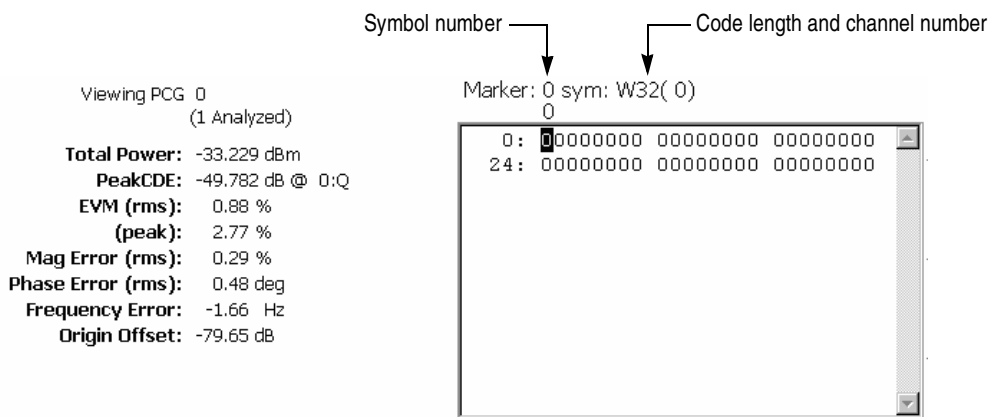

**Figure 2-24: PhaseErr display-reverse link**
**PhaseErr Display.** When you select Mainview Content from the VIEW DEFINE menu and then select PhaseErr from the Mainview Content submenu, changes of phase error over time are displayed for each chip or symbol (see Figure 2-24).